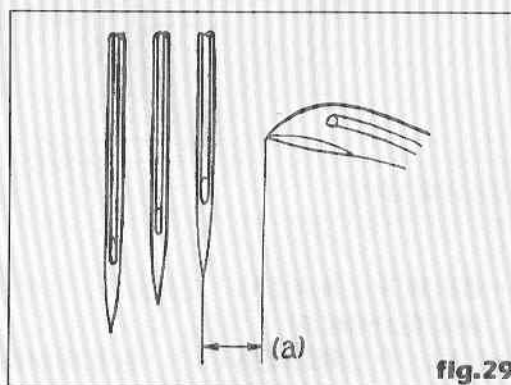
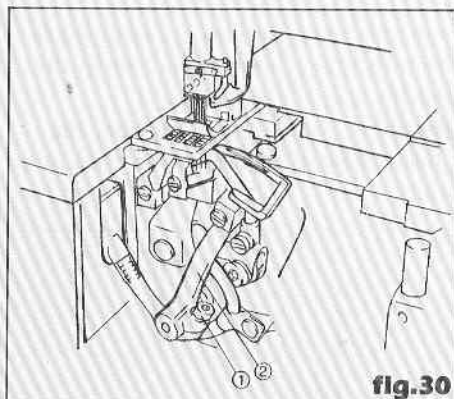

fig.29
fig.30
2. Adjust the distance of (a) (Tab4) (fig 29) Loosen the screw (1) and move the looper holder right or left (fig. 30)